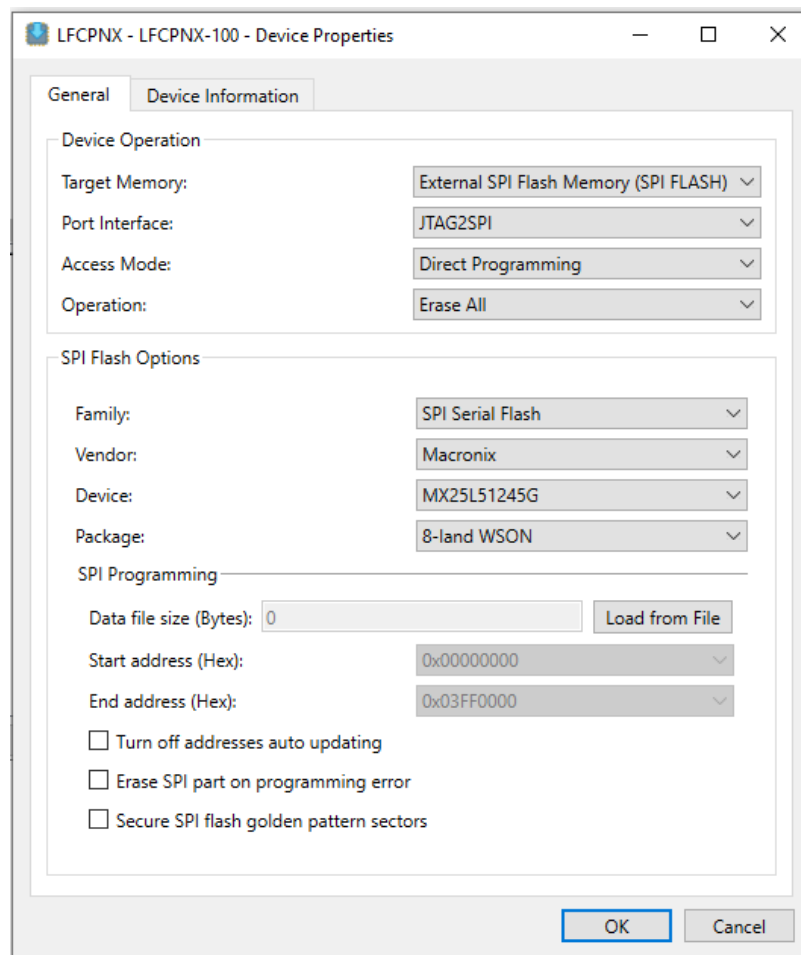
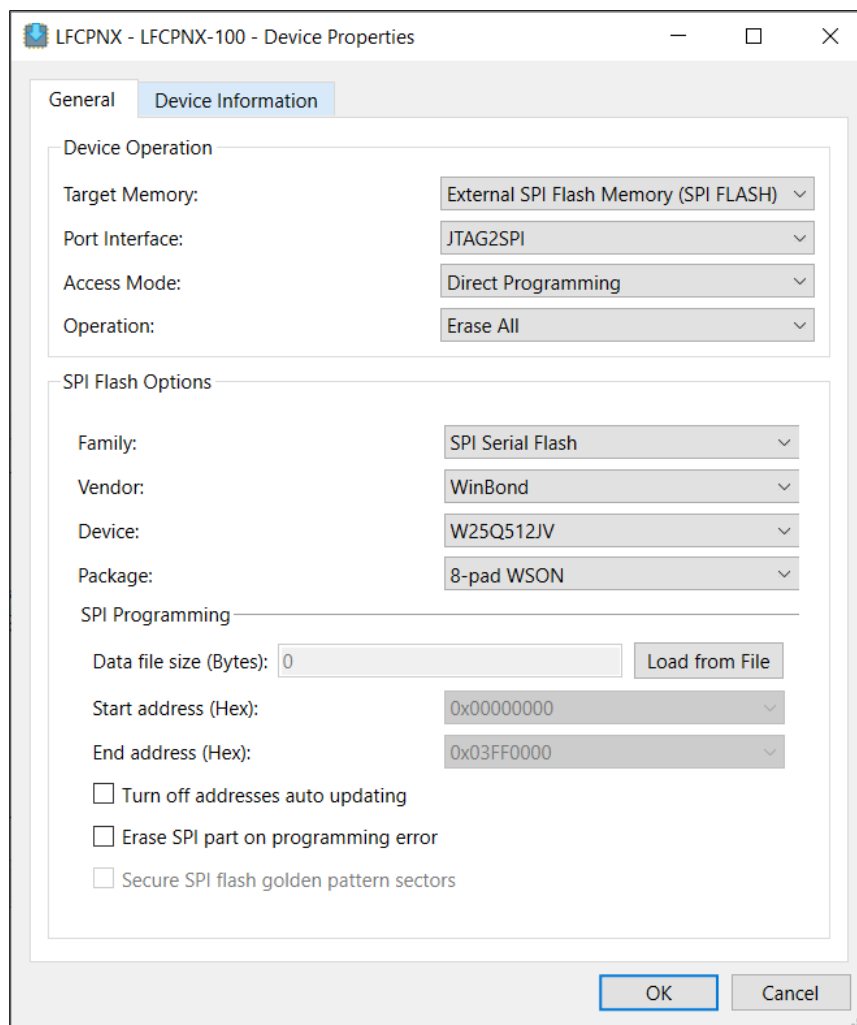

Figure 6.13. Device Properties to Erase the Macronix SPI Flash
Figure 6.14. Device Properties to Erase the Winbond SPI Flash
8. Before programming, you need to erase the entire SPI Flash Memory by applying the settings shown in Figure 6.13 and Figure 6.14.